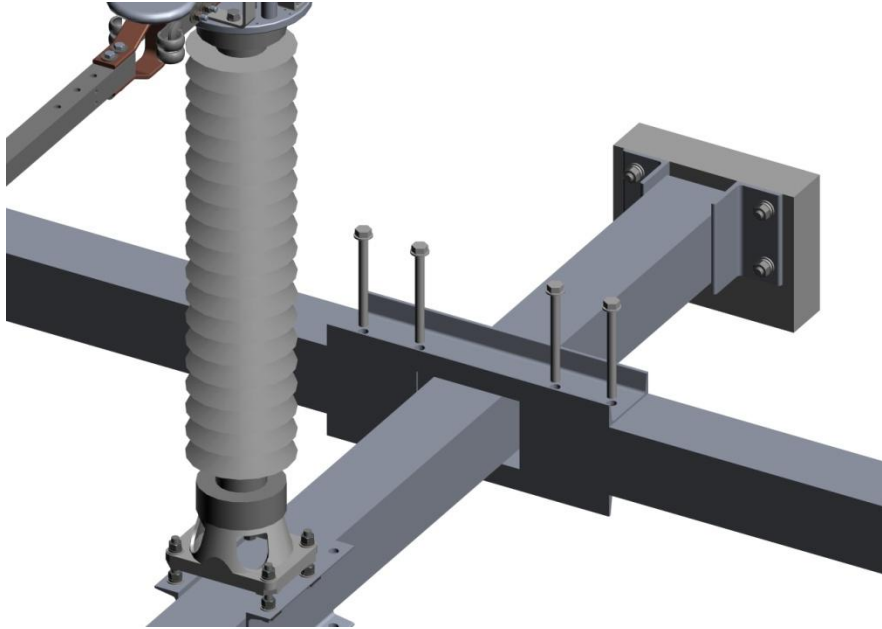

Figure 6: Base Member Hardware
- 4) Insert hardware specified on the switch assembly drawing. Do not tighten hardware at this time. See Figure 6.